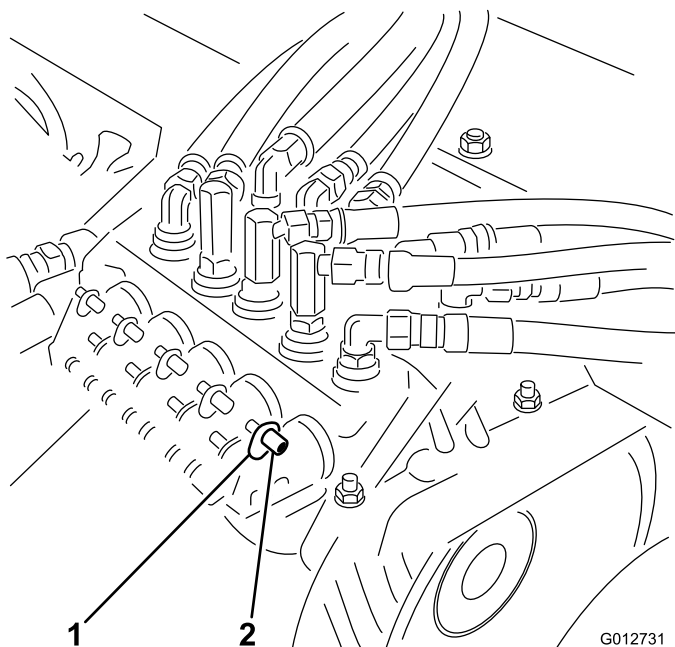
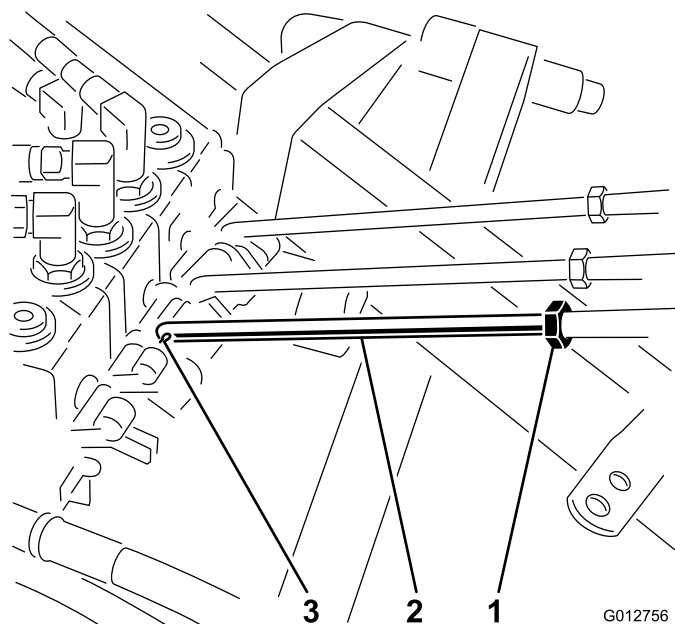
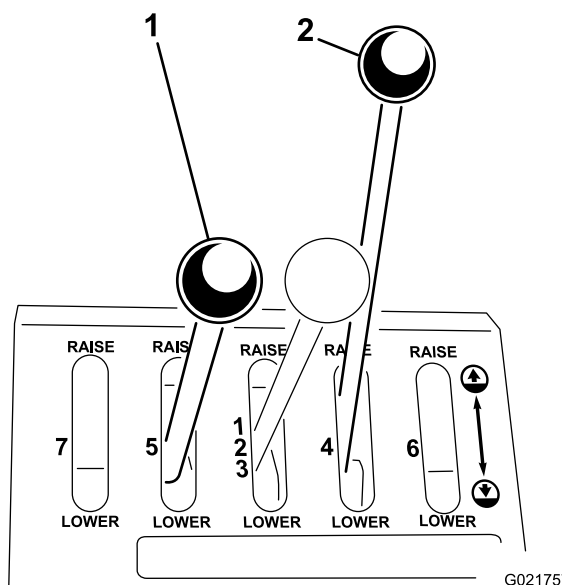

Figure 10
Figure 11
Figure 12
4. Check to make sure valve spool levers (Figure 10) are in neutral (middle position) by pivoting levers in toward valve, or pulling them out to find mid position. Coat all pivot points with #2 gun grease or lubricate with #30 SAE oil.
5. Thread 7/16 inch hex nuts onto lower control rods. Partially thread lower control rods into upper control tubes (Figure 11). Coat threads with #2 gun grease.
6. Align hole on end of lower control rod (Figure 11) with mounting pin in control valve lever (Figure 10). Lever on control tower should be in center of slot (neutral position) if adjusted correctly (Figure 12). Thread lower rod into or out of upper control tube to adjust. After each lever is adjusted, check to make
7. Secure control rods to control valve levers with cotter pins (Figure 11).
9. When adjusted correctly, tighten jam nuts on lower control rods (Figure 11).